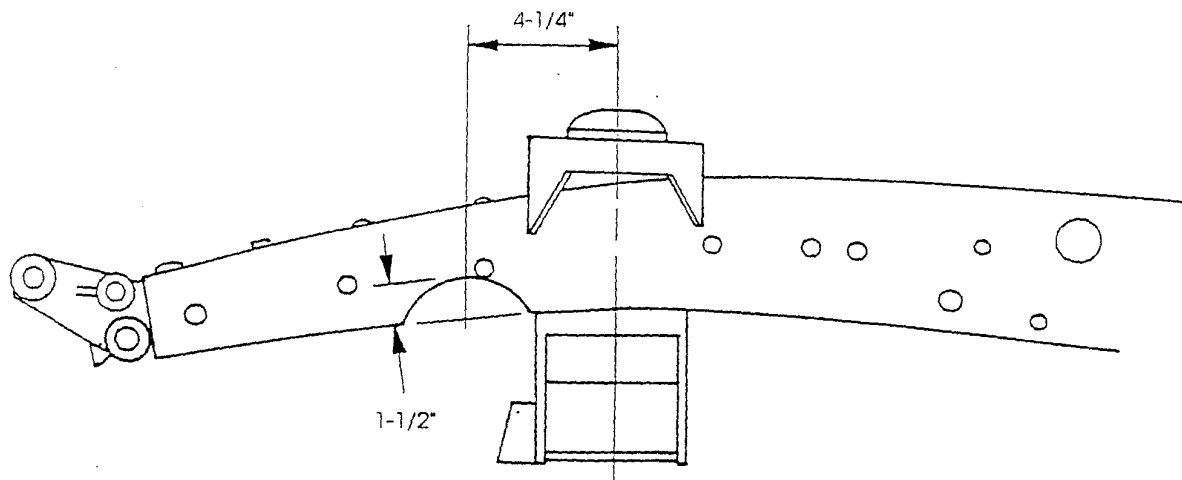

Figure 6
8. The C-notch for the rack is the last part to be done. Measure forward 4-1/4" from the centerline, and up 1-1/2" and make a mark. Now draw a 2-1/8" radius, using your mark as the top of the radius (See Figure 6). Trim out the material marked, leaving about 1/8" to work with, and then try the rack and the C-notch filler piece. Finish grind the notch for fit and location, and tack the filler pieces in place. Remove the rack.